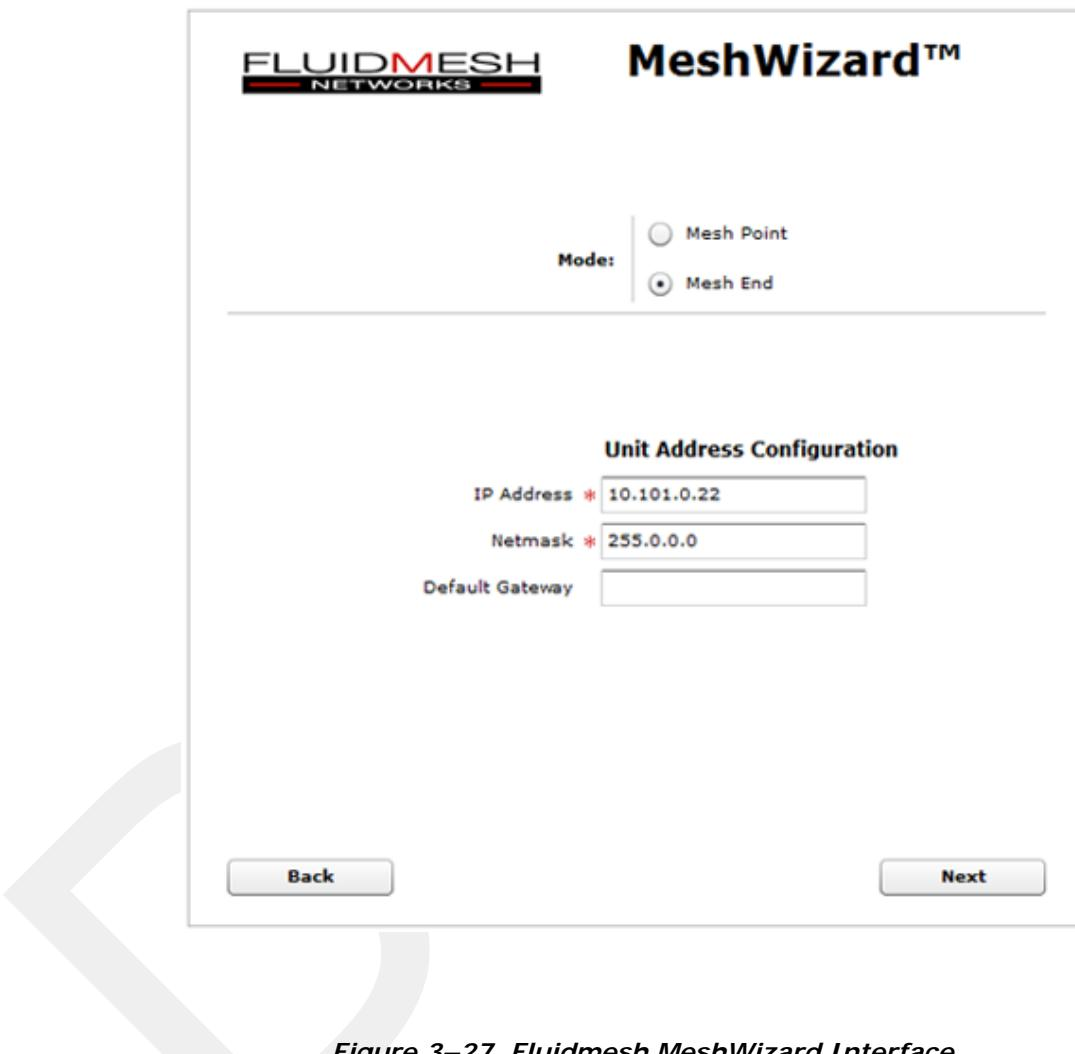

Figure 3–27 Fluidmesh MeshWizard Interface
- 8 Select one of the following frequencies (see *Figure 3–6 Channel Color Example on page 30*):